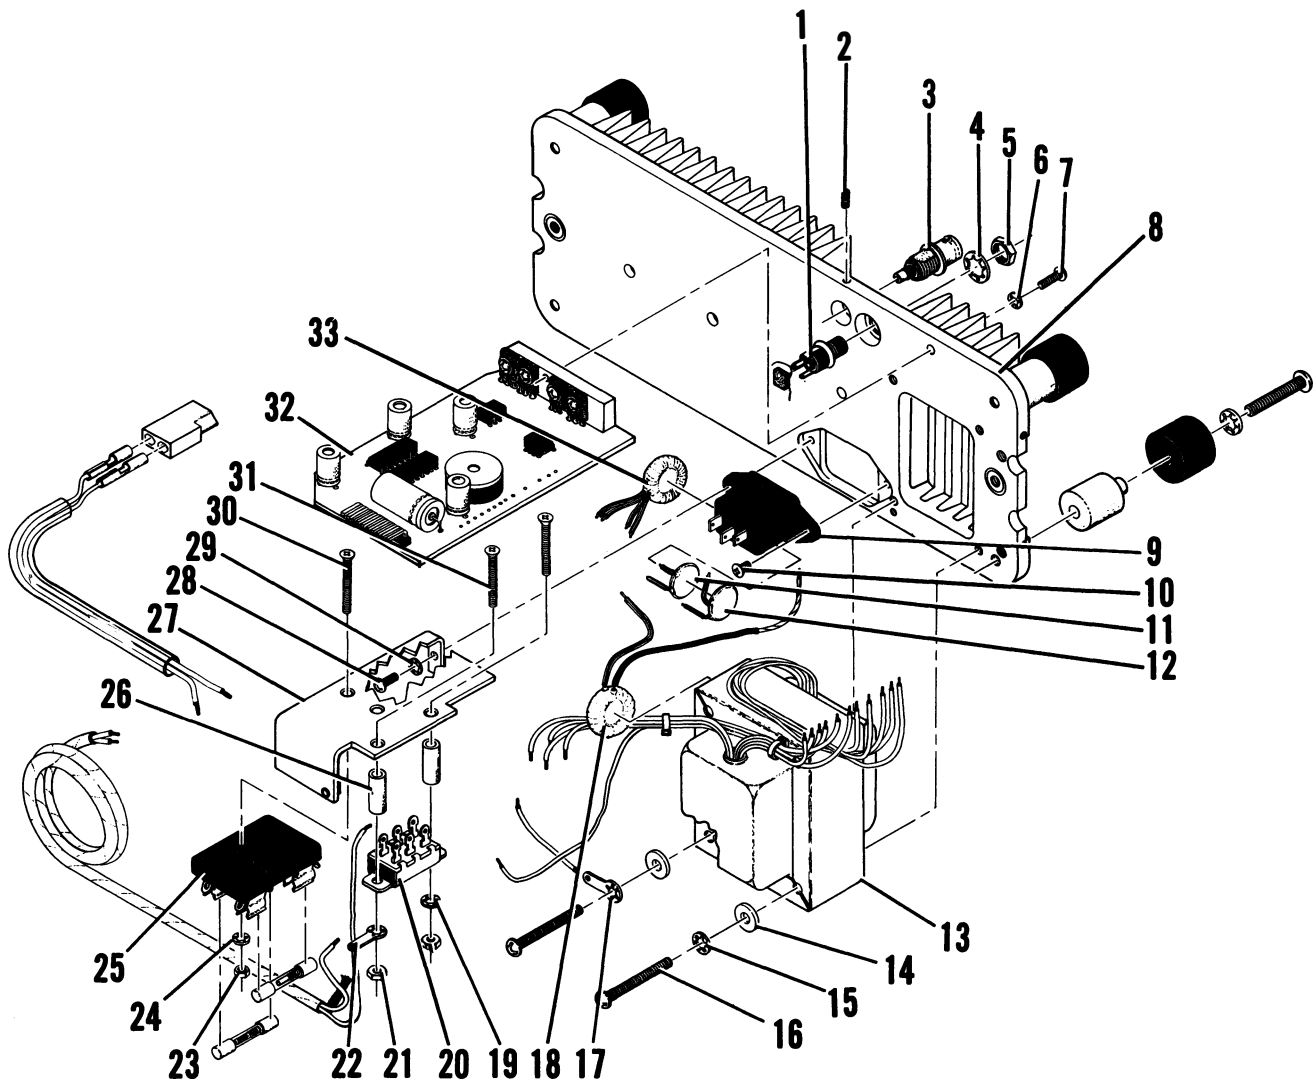

Figure 6-7 Rear Panel Assembly
1. Remove Battery (47), if so equipped. (Paragraph 6-2-2.)
2. Disconnect coax cable from External 10 MHz connector (55).
3. Remove two screws (1) and lock washers (2) attaching Output Amplifier (49) to Rear Panel (48).
4. Remove two screws (51 and 52) and lock washers (50 and 53) attaching Power Supply PC Board (5) to chassis (33).
5. Remove screw (24) and lock washer (23) attaching mounting bracket (Figure 6-7, Item 27) to chassis (33).
6. Remove eight screws (17) attaching Rear Panel (48) to chassis (33).
7. Remove two thumbnuts (11) securing fuse protector (7) and remove fuse protector.
8. Withdraw Rear Panel Assembly (48) from chassis (33).
9. Disconnect wire harness connector from Power Supply PC Board (5).
10. Unsolder black wire from fuseholder (Figure 6-7, Item 25).
11. Remove nut (Figure 6-7, Item 21) and terminal lug (Figure 6-7, Item 22) attaching white wire to voltage select switch (Figure 6-7, Item 20).
B. Disassembly (Figure 6-7)
1. Remove Transformer (13).
- a. Remove screw (7) and lock washer (6) attaching Power Supply PC Board (32) to Rear Panel (8).
- b. Tag and unsolder all wires from transformer (13) to Power Supply PC Board (32).
- c. Tag and unsolder three wires from transformer (13) to voltage select switch (20).
- d. Unsolder wire from External DC Power jack (1) to torroid coil (18).
- e. Remove four screws (16), three lock washers (15), four flat washers (14) and grounding lug (17) mounting transformer (13) on rear panel (8).
- a. Tag and unsolder all wires from voltage select switch (20).
- b. Tag and unsolder all wires and capacitor lead from fuseholder (25).
- c. Remove two nuts (21), lock washer (19), terminal lug (22), if installed, and screws (30) attaching fuseholder (25) to mounting bracket (27).